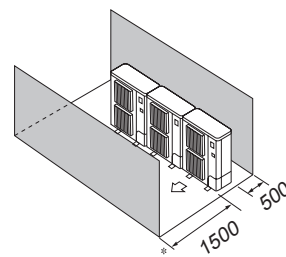

Fig. 4-15
- Obstacles at front and rear only (Fig. 4-15)